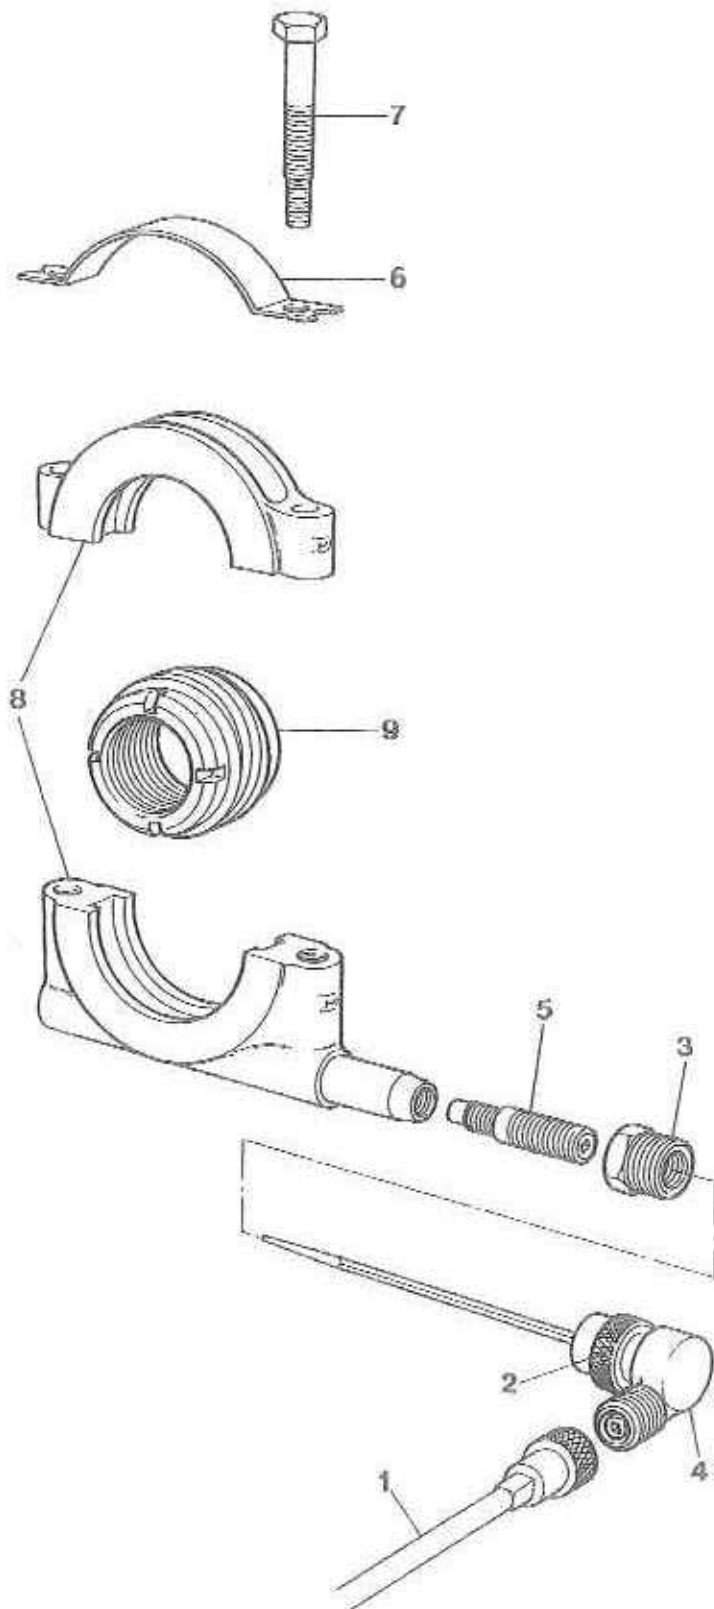

FIG 39
1. (Fig. 39) Disconnect the speedometer drive cable (1) from the speedometer and the gearbox (4).